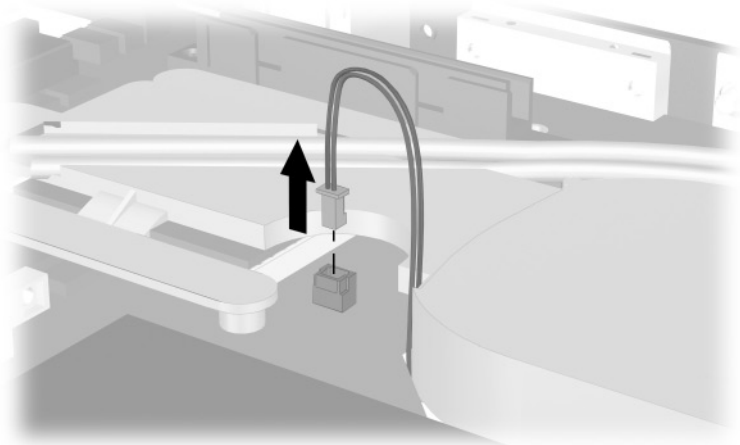

Figure 5-31. Disconnecting the Fan Cable
3. Disconnect the fan cable from the system board (Figure 5-31).